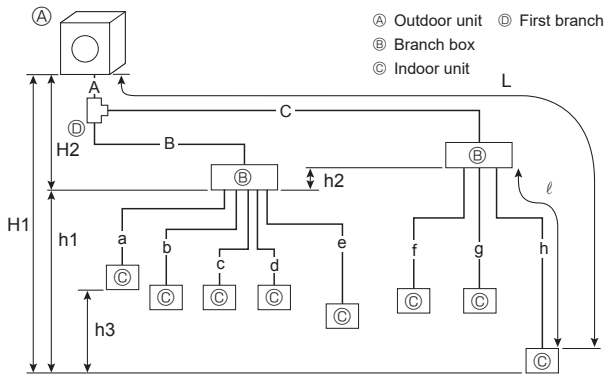

Fig. 4-4
4.3.2. Connection with Branch box (Fig. 4-4)